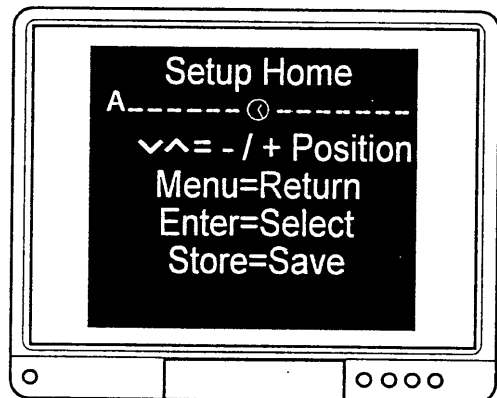

Figure 16.
- Step 5. The 'X' shows the position the selected command letter will be allocated to. Use the '∇', '▲' keys to move the highlight to the required position. When you have selected both the letter and position press 'Store'. The on-screen display will change to the display shown in figure 16.